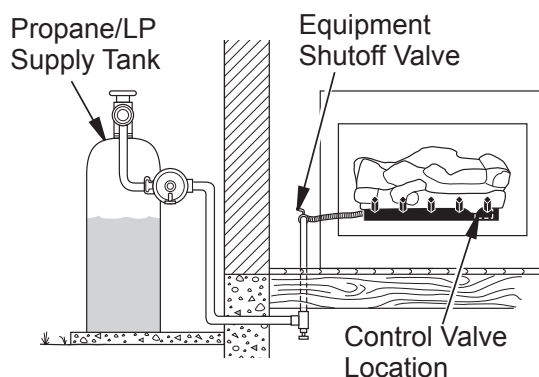
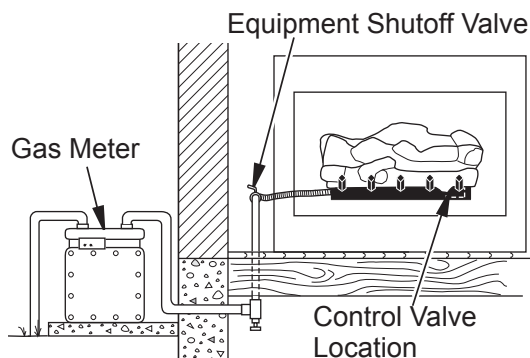

Figure 15 - Checking Gas Joints (Propane/LP Only)
Figure 16 - Checking Gas Joints (Natural Gas Only)
3. Check all joints from gas meter to equipment shutoff valve for natural gas or propane/LP supply to equipment shutoff valve for propane/LP (see **Figure 15 or Figure 16, Pages 14-15**). Apply noncorrosive leak detection fluid to all joints. Bubbles forming show a leak.
4. Check all joints from gas meter to equipment shutoff valve for natural gas or propane/LP supply to equipment shutoff valve for propane/LP (see **Figure 15, Page 14** or **Figure 16, Page 15**). Apply noncorrosive leak detection fluid to all joints. Bubbles forming show a leak.